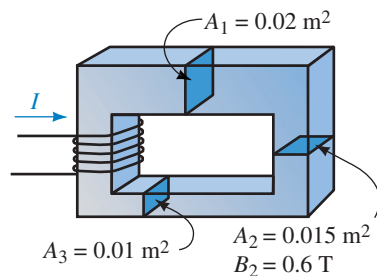

FIGURE 12-44
7. For the iron core of Figure 12-44, flux density $B_2 = 0.6 \text{ T}$. Compute B_1 and B_3 .